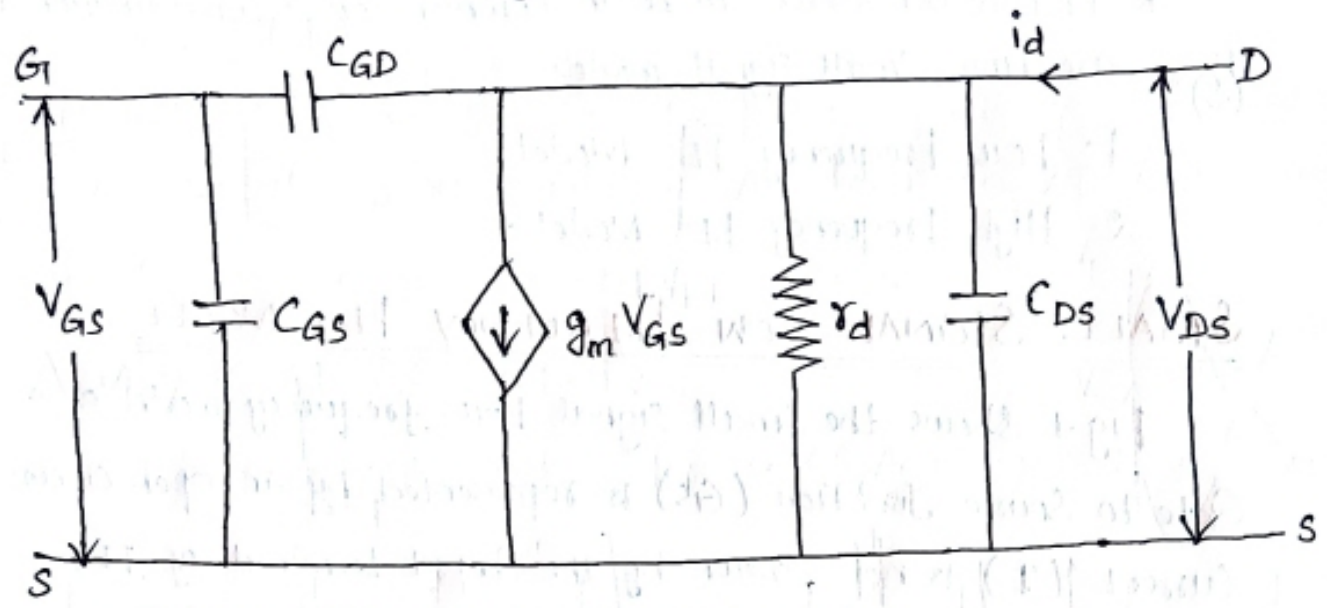

Fig: 2: High-Frequency FET Model
- Fig. 2 Shows the small Signal High Frequency Model of FET.
- i) The capacitance ' C_{GS} ' represents the Barrier Capacitance between Gate and Source (S) typical Values of ' C_{GS} ' range from $1 pF$ to $10 pF$.
- i) The Capacitance ' C_{GD} ' represents the Barrier Capacitance between Gate (G) and Drain (D). Its typical value is also from 1 PF to 10 PF.
- iii) The Capacitance ' C_{DS} ' represents the barrier Capacitance between Drain (D) and Source (S). Its typical value range from 0.1 PF to 1 PF.